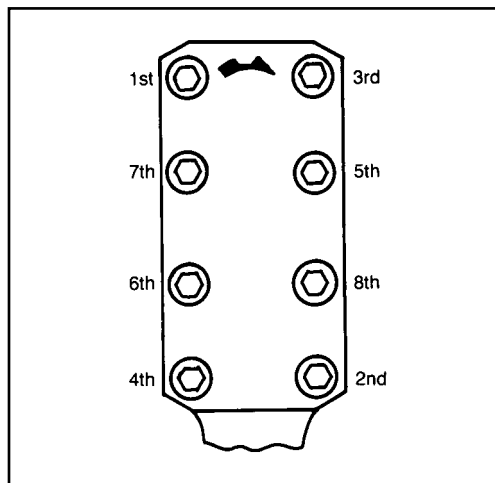

Figure 7
- 4) Carefully place Port Plate (5) over Arbors (10) making sure ports line up with ports in Body (1). Make sure plate is not 180° out of position; relief grooves face up toward Center Plate (4).
- 5) Assemble Driving Metering Gear (7), Round Key (12) and Drive Shaft (8).
- 6) Lubricate Sleeve Bearing and place Driving Metering Gear assembly into Body (1) and through Sleeve Bearing. Rotate several times to insure free rotation.
- 7) Place one Driven Metering Gear (6) on its arbor and rotate several times to be sure it is free. Repeat process for the other Driven Metering Gear (6).
- 8) Rub a slight amount of oil over gear recesses of the Center Plate (4), then carefully lower over the Metering Gears.
- 10) Place Rear Side Plate (3) over Center Plate (4) and screw in Binder Screws (28) finger tight. Again, make sure pump turns freely.
- 11) Tighten the Binder Screws (28) to 150 lbs.-in., 50% of the recommended tightening torque. Follow the order shown in *Figure 7*. Make sure the pump turns freely.
- 12) Tighten Binder Screws (28) (following the order shown in *Figure 7*) to recommended tightening torque of 305 lbs.-in. and make sure pump turns freely.